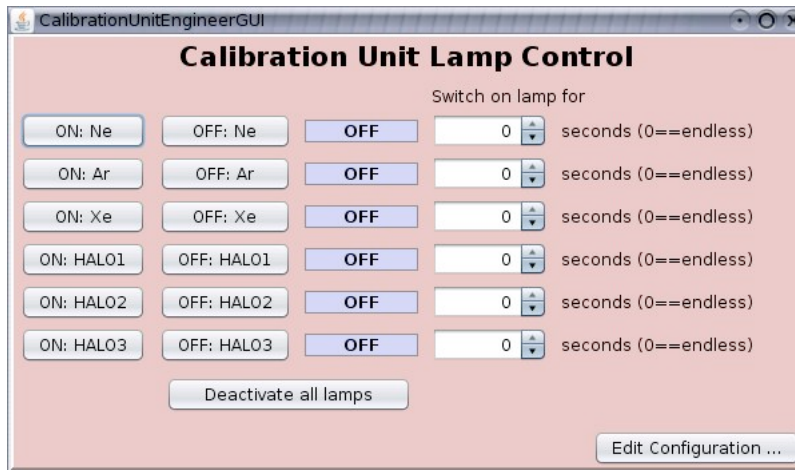

Figure 20: The LUCIFER Calibration Unit GUI.
**Calibration Panel** The next panel in this GUI lets the user control the calibration unit. It can be moved in and out from here and the current lamp status is shown. To switch on the lamps an extra GUI (Fig. 20) can be accessed via the OPEN GUI button. There all lamps can be selected at once.